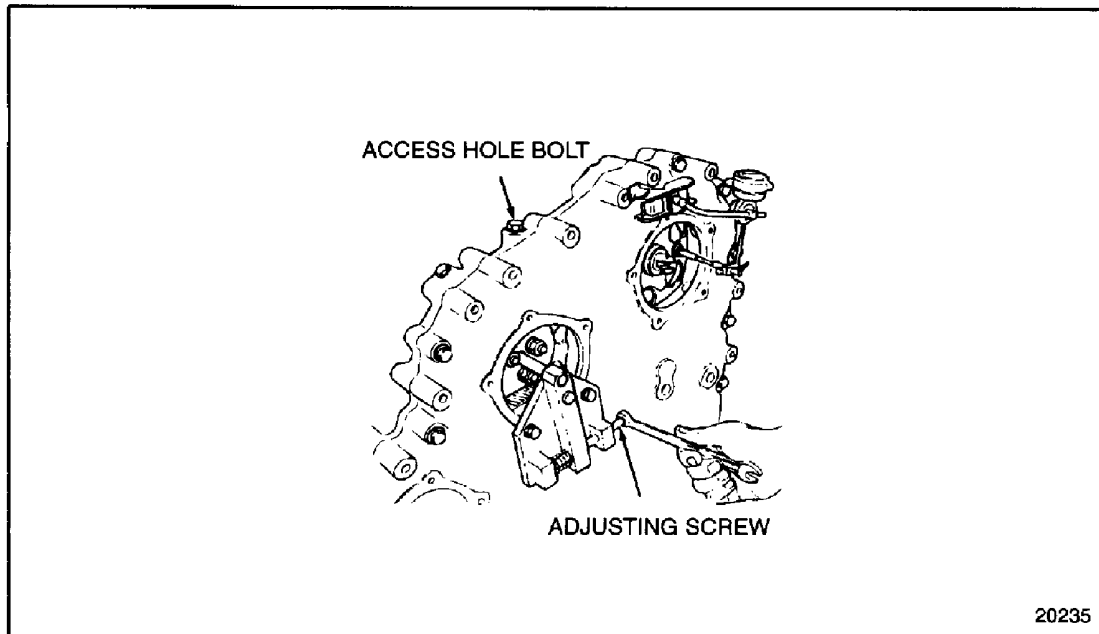

Figure 1-280 Adjustable Idler Gear-to-Camshaft Drive Gear Lash Adjustment
- [g] Turn the adjusting screw of the tool in a clockwise direction to force the adjustable idler gear against the camshaft drive gear, until there is zero lash between the two gears. See Figure 1-280.